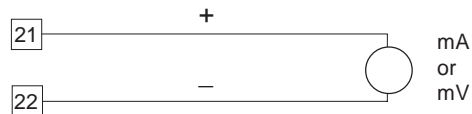

Fig. 5.8
- a) Connect the instrument as shown in Fig. 5.8.